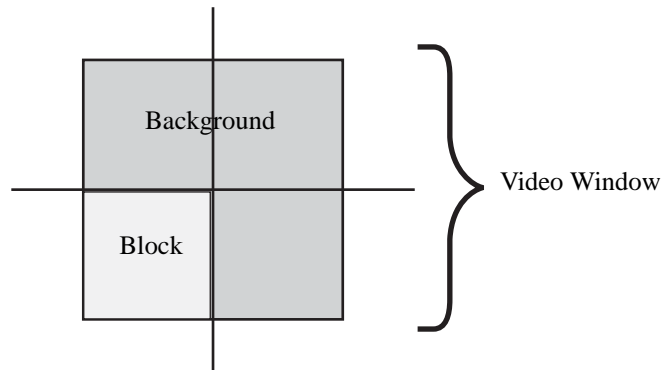

Figure A-8 Crosshair Location, Z-Axis Gage Block
11. Find and focus the upper-right corner of the gage block that is permanently mounted on the fixture (see Figure A-8). You may have to adjust the coaxial light level.